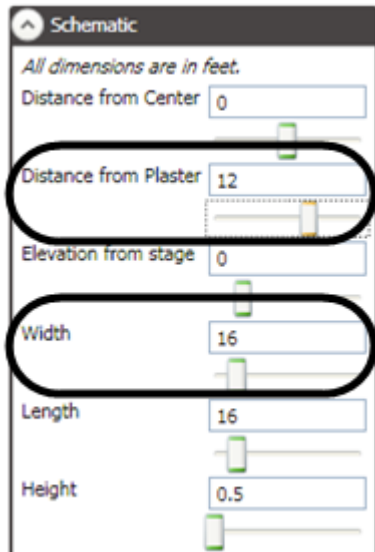

Figure 204
3. Use the **Distance from Plaster** and the **Width** sliders to position and resize the turntable (Figure 204 and Figure 205).